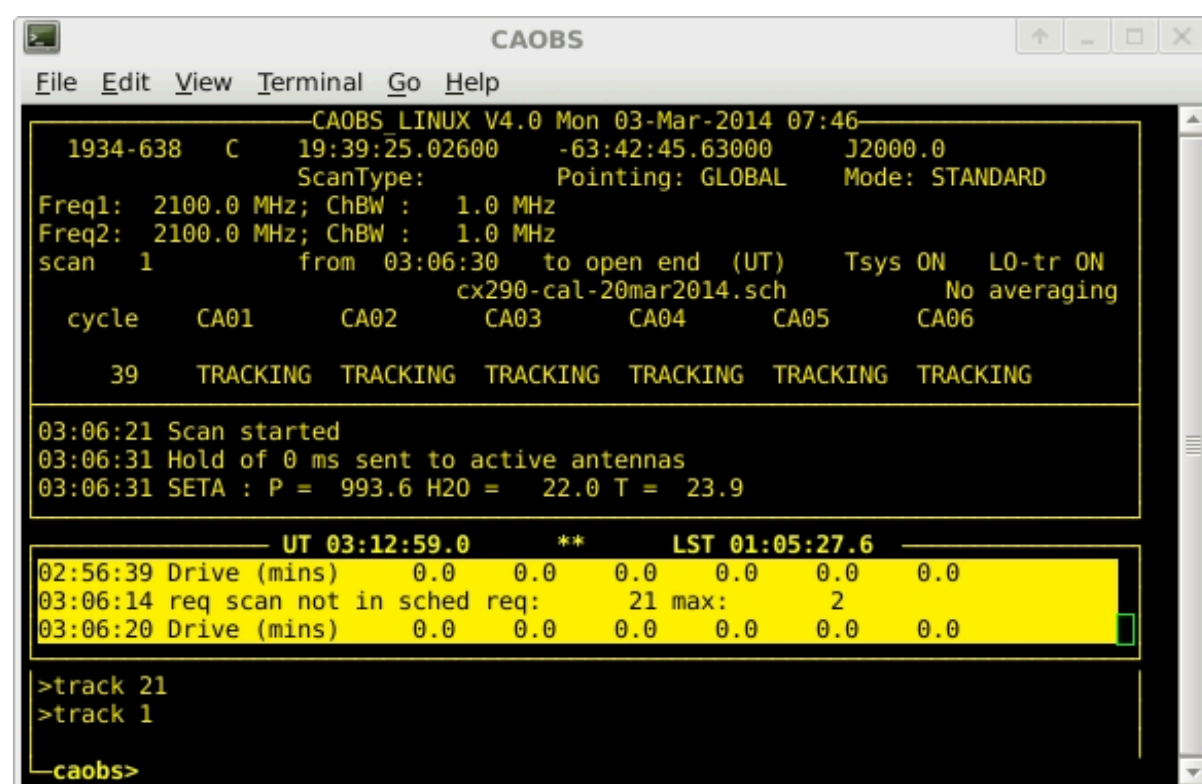

Figure A.1. A typical caobs display.
- Once connected to the **caobs screen** session, it should look something like Figure A.1 (p. 111). If it doesn't, then you can start **caobs**: